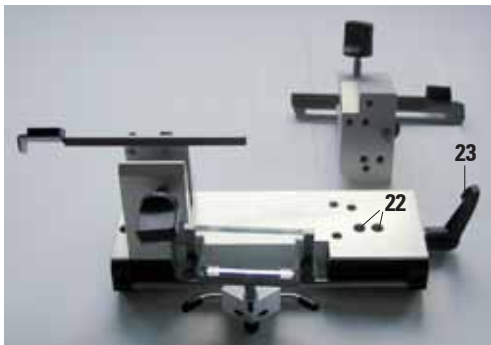

Fig. 11
2. Loosen the lever (23, Fig. 11) on the right side of the knife holder and select a clearance angle setting of '0' (index marker (25) must be in line with figure '0'). Retighten lever (23, Fig. 11). If the sectioning results are not satisfactory, increase the clearance angle setting in 1° steps, until the desired result is achieved.
First, set a clearance angle of '0'. To do so, loosen lever (23, see Fig. 11) and bring the index marker (26) in line with the figure '0' on the clearance angle scale (27). Retighten the lever (23). If the sectioning results obtained are not satisfactory, slowly increase the clearance angle in 1° steps, until the desired section quality is achieved.